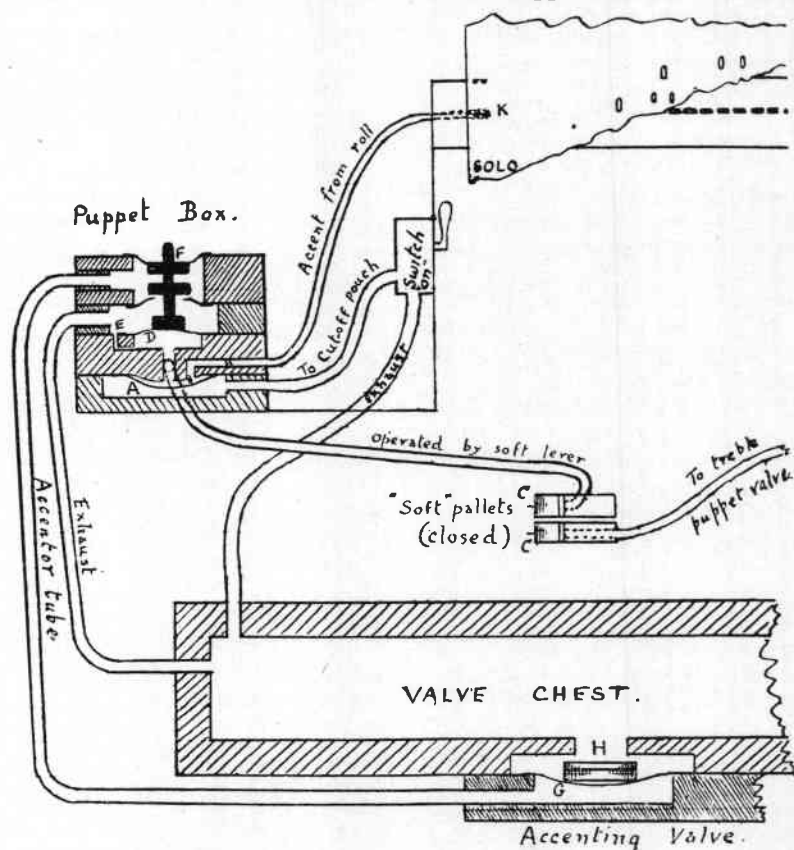

Fig. 1. The Themodist in action, one note accenting.
The motor has three double unit pneumatics, with three slides controlling the six powers. The face and slides overhang slightly to obviate any dust settling beneath the slides. The themodist puppet boxes (if two are employed, for they are occasionally combined) are placed at each end of the spool board. In my sketch (Fig. 1). I have had, of course, to condense the scale considerably, so I must ask my readers to attach no importance to the measure-
Screwed to the bottom of the valve chest is a small board, to which run two rubber tubes and a large exhaust tube. This board contains the themodist accenting valves, marked (C) in Fig. 1. Unscrew it and you will see these valves and their pouches. They cover two ports, which when open call the full force of the powerful reservoirs into play.